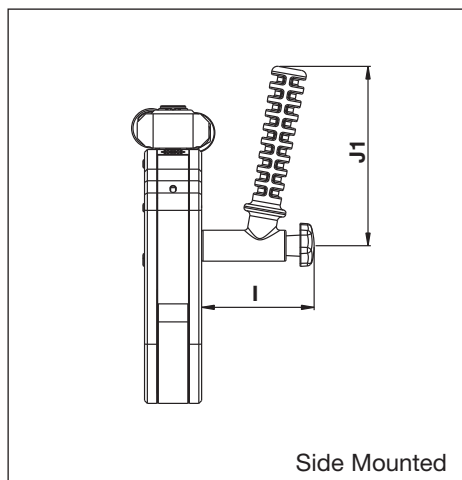

Fig. 23
6.1.3 Dimensions, SWH Series Angled Positioning Handle (Fig. 23 and 24)